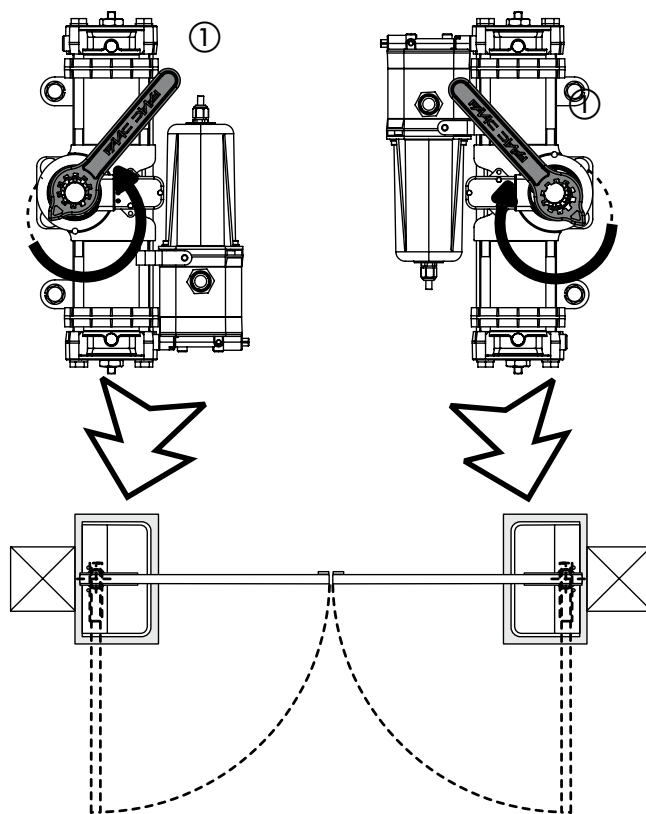

Fig. 14
- 5) Turn the operator pinion with the supplied key, **in the gate closing direction** as shown in Fig. 14, up to the internal stop point of the piston, and remove the key.